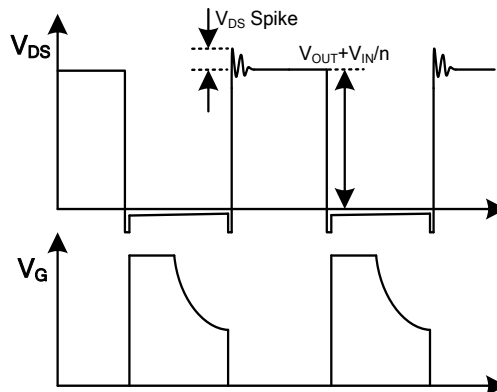

Figure 5: Drain Source and Gate Driver Voltage on the SR MOSFET
Figure 5 shows the entire synchronous rectification waveform on the drain-source voltage (V_{DS}) and the gate driver signal (V_{GS}). For safe operation of the IC, use Equation (1):